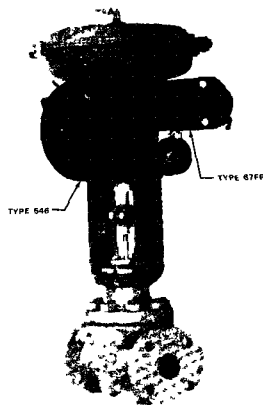

Figure 1 Type 546 Transducer Mounted on Fisher Type 657 Pneumatic Diaphragm Actuator
2. Run 3/8 inch O.D. tubing from the 1/4 inch NPT OUTPUT opening in the transducer case to the input connection on the pneumatic actuator or valve positioner. This connection will be made at the factory if the unit is shipped mounted on an actuator as shown in figure 1.